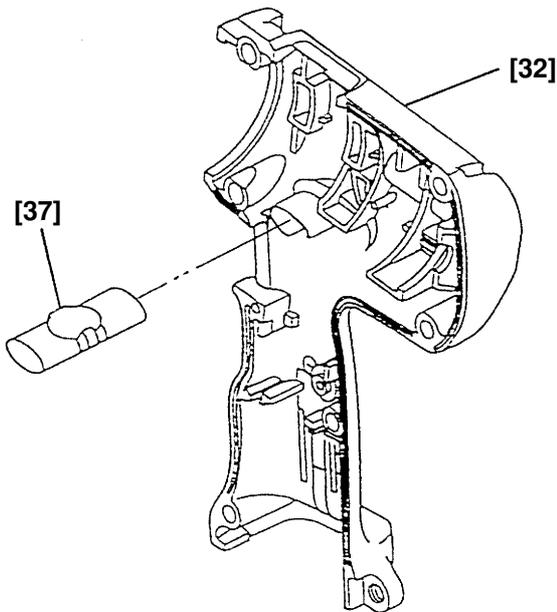

Fig. 14
- (5) Installation of the assembly reassembled in step (3) into Housing (A). (B) Set [32]
- (a) Install the Pushing Button [37] into Housing (B). (See Fig. 14.)